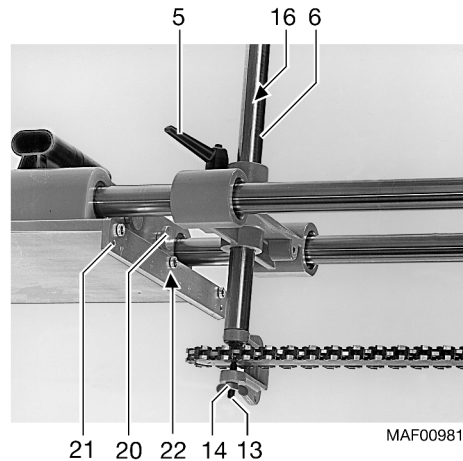

Fig. 3
- Fully extend mounting part 3 (Fig. 3) of the slot mortising device from the pivoting plate.
- To mount the chain bar support unscrew threaded pin 13 (Fig. 3) after slackening off wing nut 14 so that the mortising chain can be moved between threaded pin 13 and bearing journal 15 (Fig. 3).
- Finally, secure threaded pin 13 (Fig. 3) with wing nut 14.
- Pull back support bracket 4 (Fig. 3).
- Set desired distance according to scale 16 (Fig. 3) by turning handle 10 (Fig. 3) and then retighten clamping levers 5, 7 and 8.
- Loosen screws 17 and 18 (Fig. 3) which hold the pivoting plate and tighten them again when the angle required is reached.
The depth of the slot can be preselected by means of depth stop 19 (Fig. 3).
After setting the slot mortise distance, slide support bracket 4 (Fig. 3) forwards as far as it will go to give the chain bar optimum support and engage it.
Remove positioning pins 20 (Fig. 3) from the pivoting plate and screw them into threaded holes 21 of the stop plate. Position the machine as required using scale 22 and press the stop plate firmly against the timber.